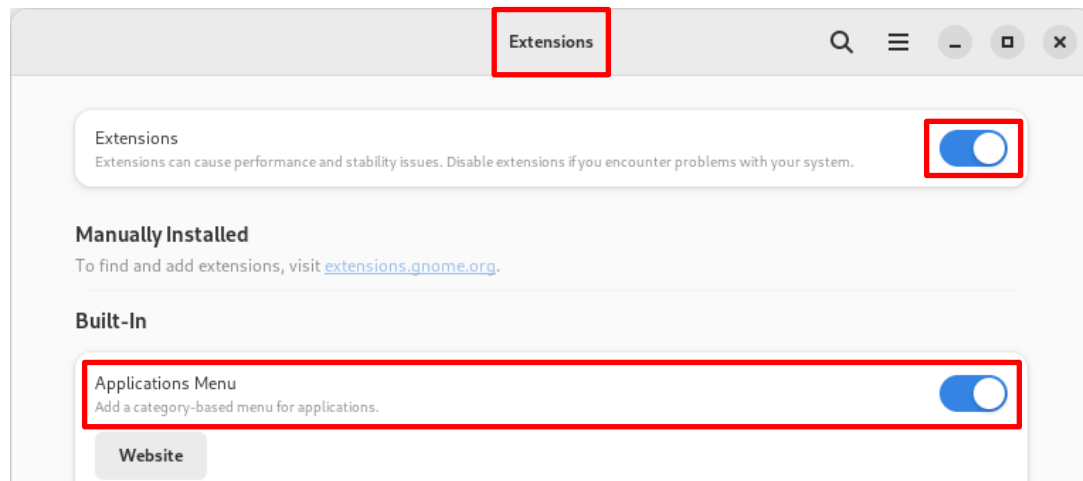

Figure 23: Debian 12 - Enabling the built-in 'Applications' main menu
- Enable built-in extension 'Applications menu' to use the Applications menu. See figure 23 below.